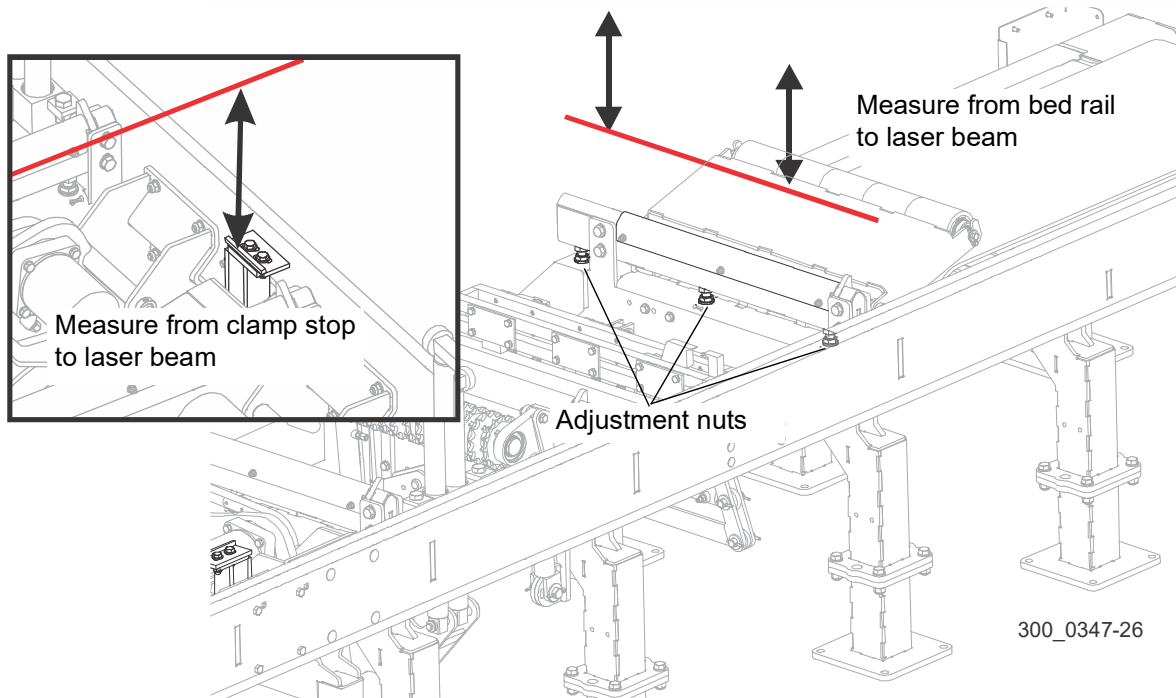

FIG. 3-36
1. Adjust the bed rails to 1/2" (13mm) below the log clamp stop. See Fig. 3-36.
- Repeat adjustment as necessary at each bed rail. See Fig. 3-36.